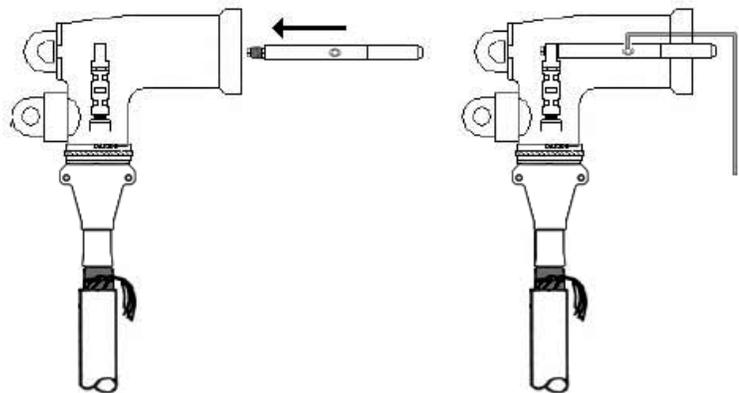

Fig. 9 - Assemble & torque probe with wrench
- C. Hand thread the probe into the lug to avoid cross threading. Once the probe has been properly started, use the supplied wrench to fully tighten probe into the lug. The probe will be fully mated when the wrench permanently deforms at approximately 110 to 120 inch/lbs of force. See Figure 9.